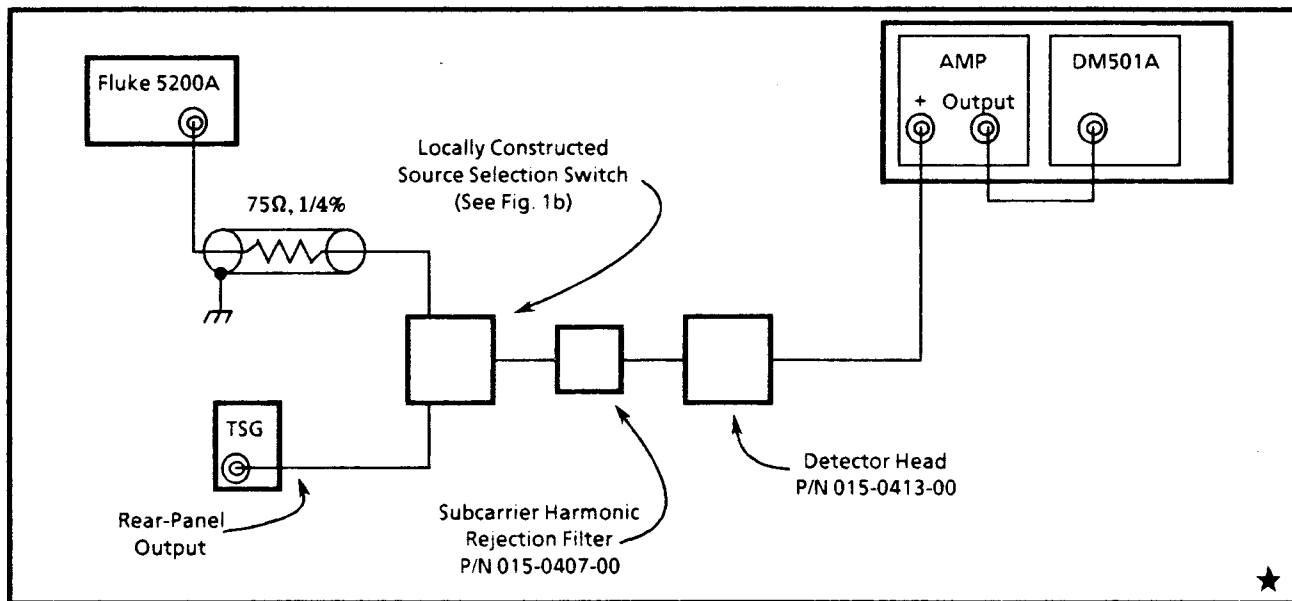

Fig. 2. Equipment Connections for Chrominance Amplitude Measurement.
- d. Connect the Fluke 5200A with 75 ohm series resistor, the TSG7, and the source switch as shown in Fig. 2. Select the Fluke 5200A with the source switch box.
g. Select the TSG7 with the source switch (see Fig. 2). Do not readjust the p-p detector level control. Set the BCD switch to the appropriate bar (Red, Green, or Blue).
k. Select the TSG7 with the source switch (see Fig. 2). Set the BCD switch to the appropriate bar (Red, Green, or Blue).
CHANGE Figs. 2 and 3 AS FOLLOWS: